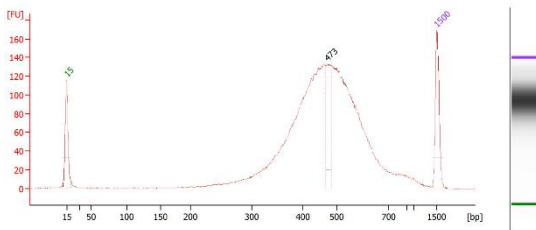

Figure 1 Agilent 2100 Bioanalyzer Fragment Size Distribution Results of the Purified PCR Product
- 3.6.2 Assess the fragment size distribution of purified PCR products with electrophoresis-based equipment such as Bioanalyzer, Tapestation (Agilent Technologies), LabChip® GX, GXII, GX Touch (PerkinElmer), or Fragment Analyzer™ (Advanced Analytical). Figure 1 shows the final size distribution is 250 bp-450 bp. Figure 1 shows the detection results of Agilent 2100 Bioanalyzer: